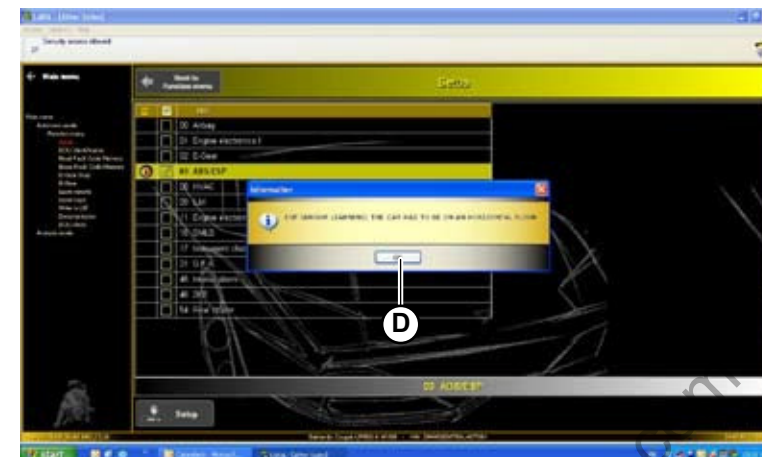

Fig.67
- Check the vehicle is horizontal and press OK (**D-Fig.67**) to continue.